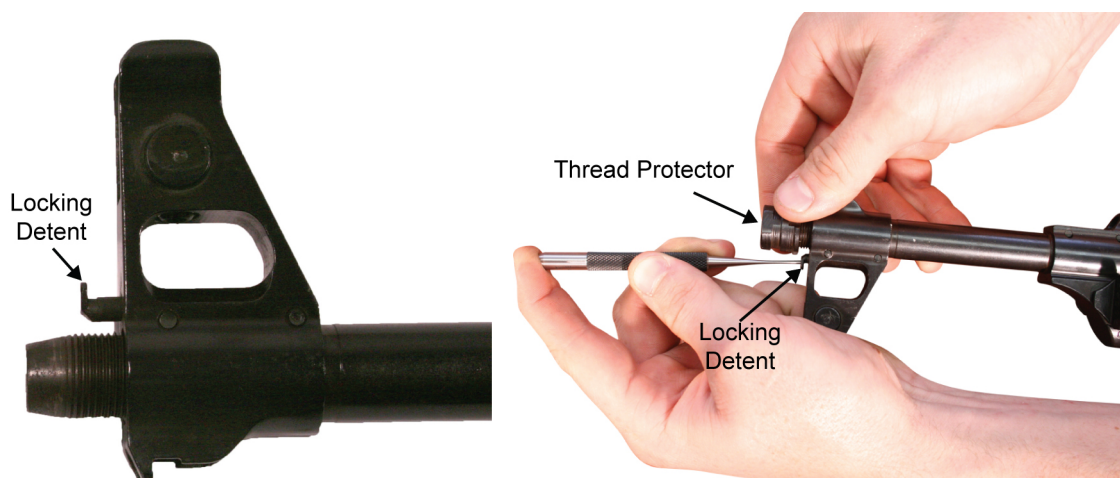

Figure 81. Installing the Thread Protector on the Muzzle.
- c. While using a punch to hold down the locking detent, screw on the thread protector (some AK-74 rifles have a compensator instead of a thread protector) until it is seated tightly on the muzzle. Ensure that the locking detent is seated in one of the notches in the thread protector. Refer to Figure 81.